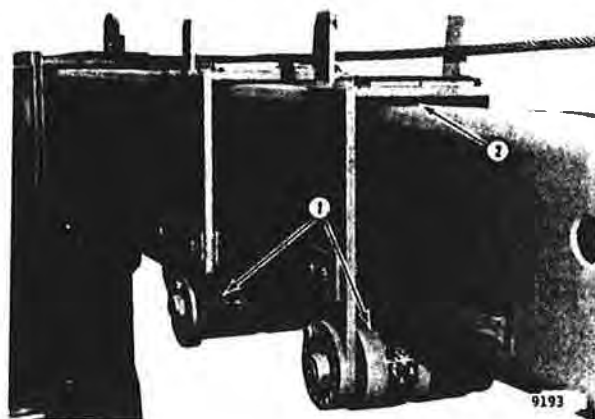

Figure 130
Adjust rollers (1, Figure 130) against bottom of extension until approximately 1/16" to 1/4" (1.59 mm to 6.35 mm) clearance exists between top portion of extensions and base section at point (2).